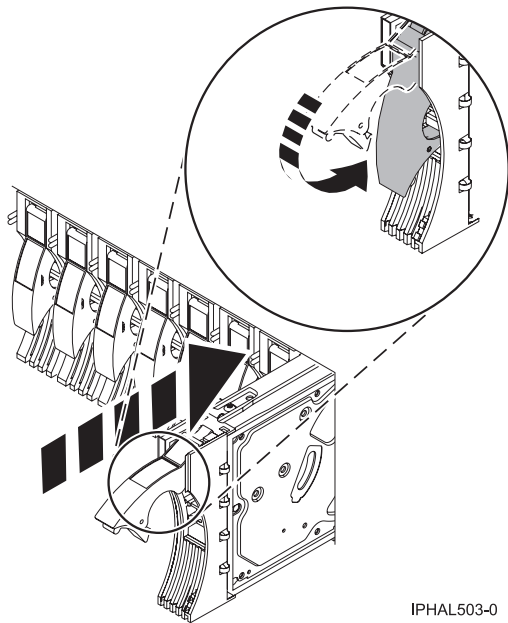

Figure 66. Installing a disk drive in a model or 7311-D20
12. Slide the disk drive all the way in into the system or expansion unit and then lock it in place by pushing in the disk drive handle as shown in Figure 66.